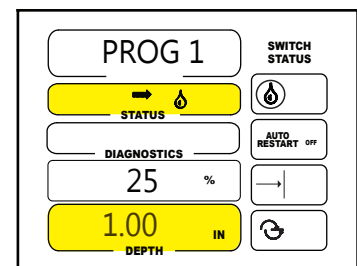

Figure 57-3
- Set water on and depth of water for the sector. See figure 57-3.